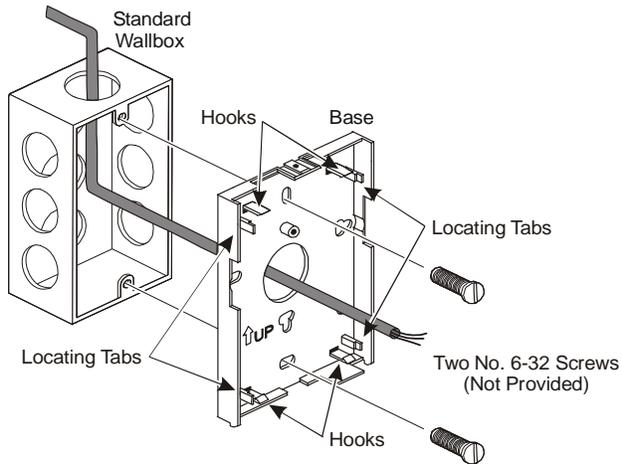

Figure 3: Wiring to a Wallbox
To mount the CO₂ transmitter to a standard wallbox, see Figure 3 and proceed as follows:
3. Carefully remove the PCB from the base by releasing the PCB from the top two hooks (Figure 3).
- a. Align the PCB between the bottom two locating tabs and under the hooks at the bottom of the base (Figure 3).